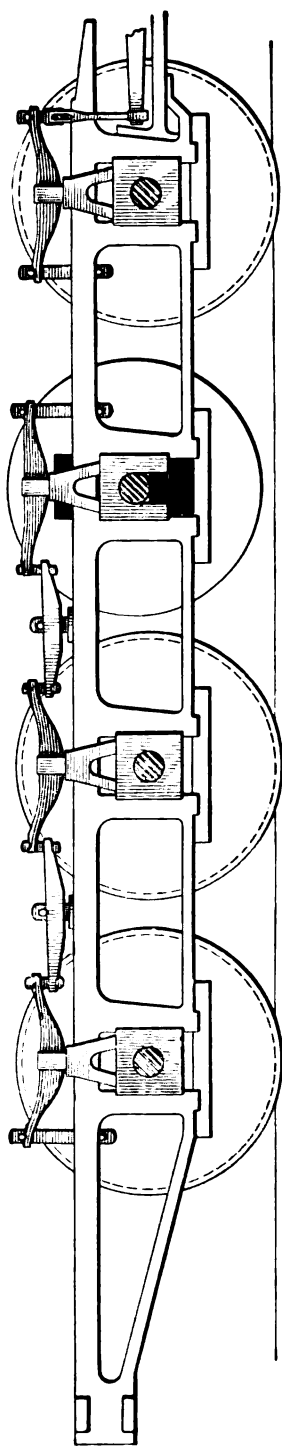

FIG. 54.
**122.** Should the tire on the second driver of a consolidation engine break, run that wheel up on a wedge about the thickness of the tire, and block as shown in Fig. 54. This gives the use of all the springs, which is an advantage. Cut out the driver brake and proceed.